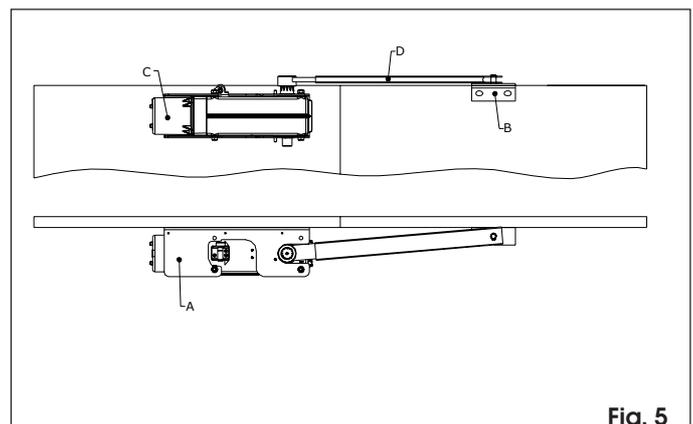

Fig. 5
- 4) Mount the geared motor C on the base plate A using the relative screws, washers and nuts supplied (fig. 5). Note: the grooved section must be facing up.